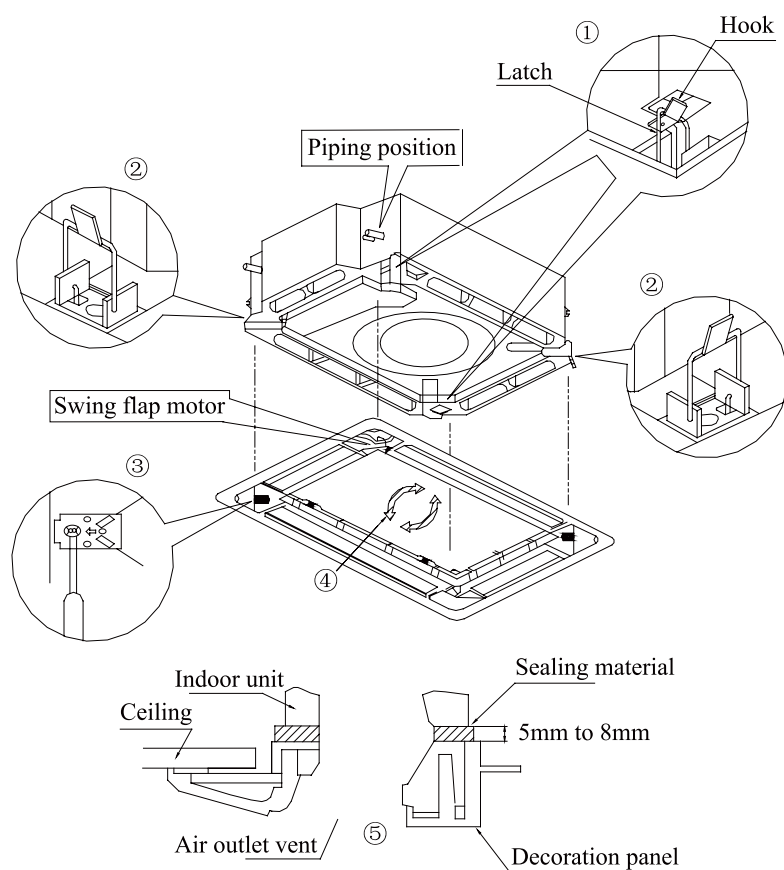

Fig.13
1. Set the panel to the indoor unit body by matching the position of the swing flap motor of the panel to the piping position of the panel to the piping position of the indoor unit as shown by fig.13.
① Install the panel on the indoor unit temporarily. When install, hang the latch on the hook that is located on the opposite side of the swing flap on the panel of the indoor unit. (2 positions)
② Hang the remaining 2 latches to the hooks on the sides of the indoor unit. (Be careful not to let the swing motor lead wire get caught in the sealing material.)
③ Screw the 4 hexagon head screws under the latches in about 15mm. (The panel would rise)
④ Adjust the panel by turning it toward the direction pointed by the arrow as shown in fig.13, so that the adjust board connect the ceiling well.
⑤ Tighten the screws until the thickness of the sealing material between panel and indoor unit reduced to 5-8mm.